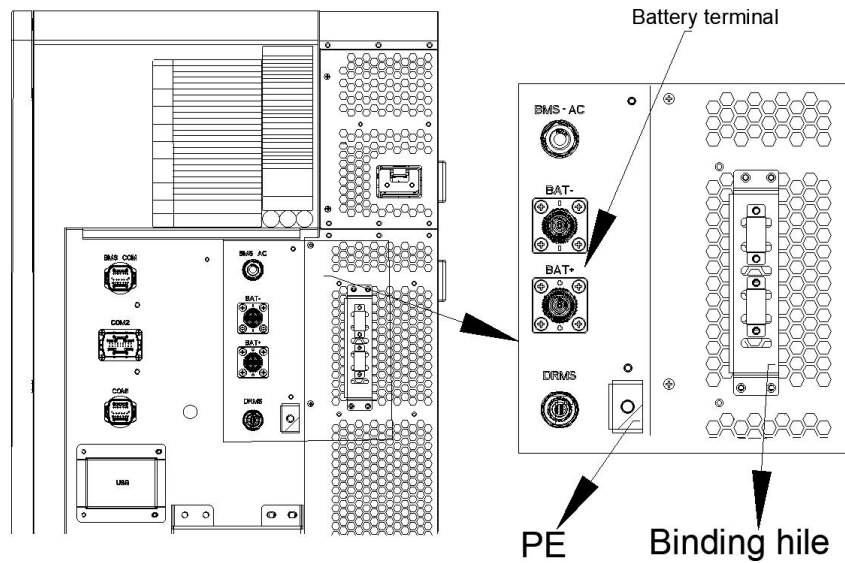

Fig 6.6 Position of the battery terminals
1. Connect the ground cable to the battery power ground bar, as shown in Figure 6.6;
4. Connect the battery cable to the battery terminals of the machine, as shown in Figure 6.6;
5. After connecting the main battery power cables, bind power cables at the reserved position, as shown in Figure 6.6.
1. Connect the ground cable before connecting the battery cable; the ground point is shown in Figure 6.6.